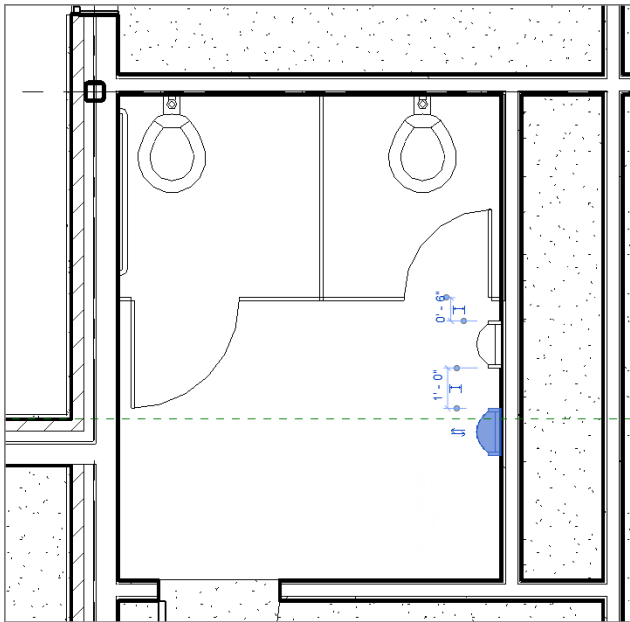

FIGURE 9.43: Adding the urinals to the men's room
5. Click the Component button, and place two urinals about 6" (150mm) away from the front of the stall, with a 1'-0" (300mm) space between the two, as shown in Figure 9.43.